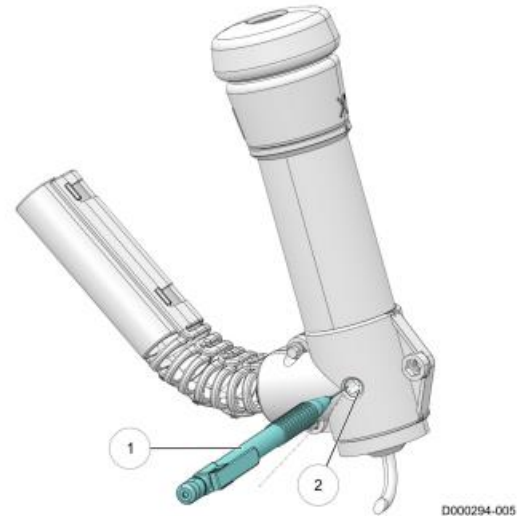

Figure 16. Clean the bleed holes
2. Refer to figure 16 for the bleed hole needle and the location of the bleed hole